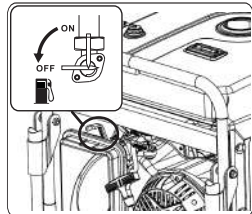

Fig 16
2. Turn the fuel valve lever back to the OFF position. (See fig 16)